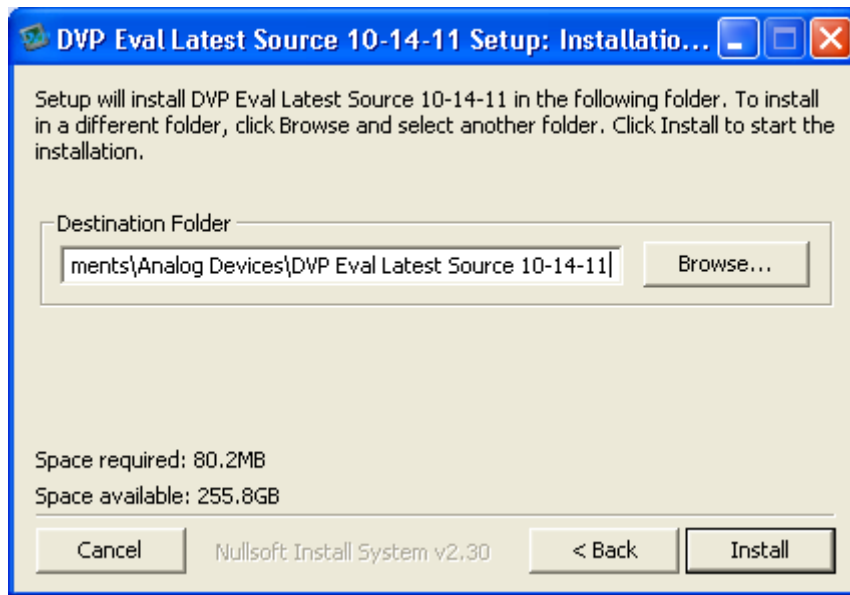

Figure 3. Installation Destination for DVP Eval Program
- A new window appears (refer to Figure 3), prompting you to select the installation destination folder. Press the **Install** button.